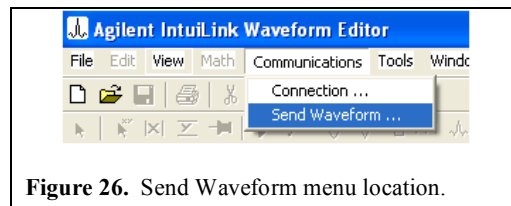

Figure 26. Send Waveform menu location.
7. Open the Send Waveform window from the Communications Menu as shown in Figure 26.